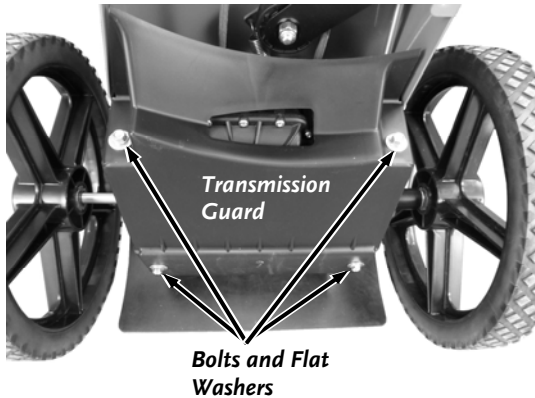

Figure 29
4. Remove the four Transmission Cover Bolts and Flat Washers with a 3/8" Wrench (Figure 29). Remove the Transmission Cover.
16. Install the Transmission Cover and secure with the four Transmission Cover Bolts and Flat Washers using a 3/8" Wrench (**Figure 29**).